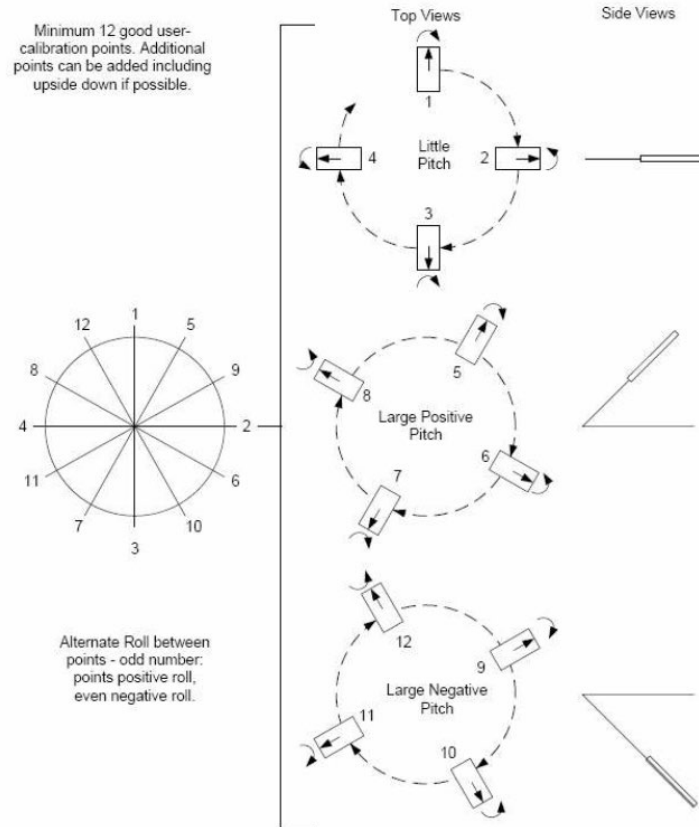

Figure 5-1: 12 Point Full Range Calibration
15. Note that we recommend the Full Range Calibration. A Full Range Calibration is appropriate when the Trax can be tilted ±45° or more. This method compensates for hard and soft iron effects in three dimensions, and allows for the highest accuracy readings. The recommended 12 point calibration pattern is a series of 3 circles of evenly spaced points, as illustrated in Figure 5-1 and listed in Table 5-2. The pitch used in the second and third circles of the calibration should at least match the maximum and minimum pitch the device is expected to encounter in use.